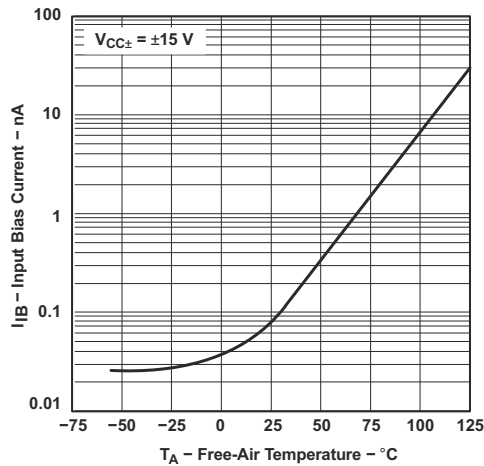

Figure 6-40. Input Bias Current vs Free-Air Temperature
- (1) Input bias currents of an FET-input operational amplifier are normal junction reverse currents, which are temperature sensitive, as shown in Figure 6-40. Pulse techniques must be used that will maintain the junction temperature as close to the ambient temperature as possible.
- (2) All characteristics are measured under open-loop conditions with zero common-mode voltage, unless otherwise specified. Full range is $T_A = -55^\circ\text{C to } 125^\circ\text{C}$.